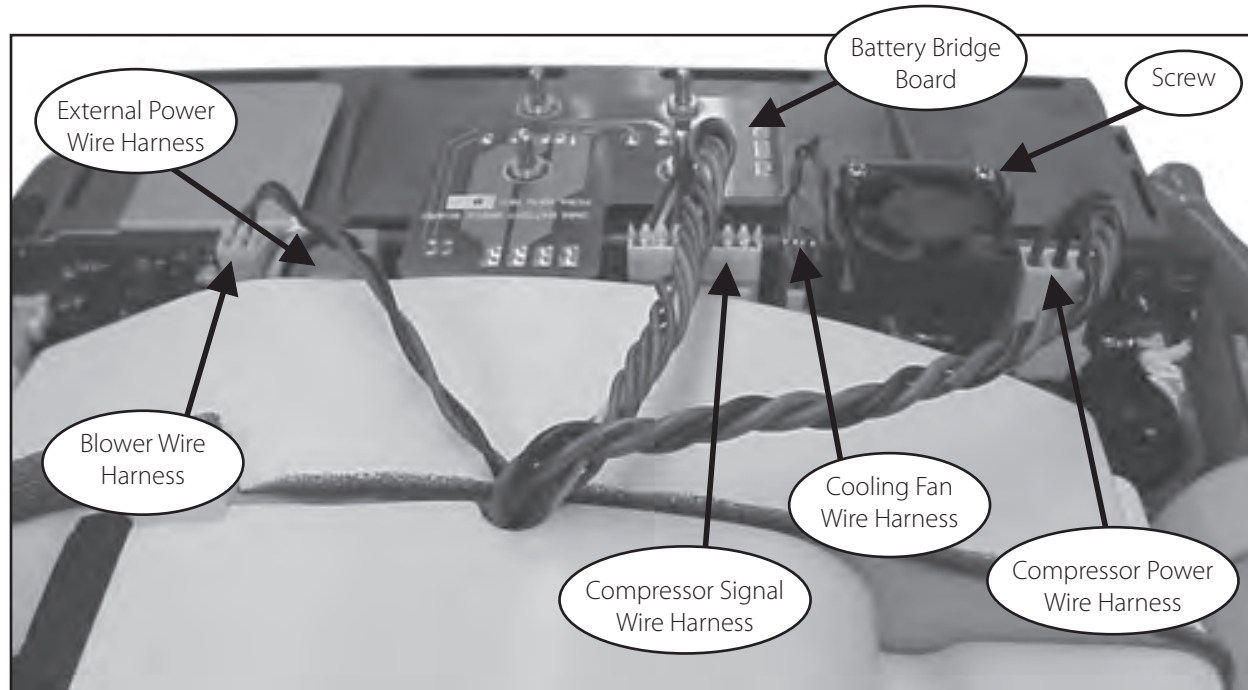

Figure 57: Power Manager PC Board Removal.
3. Disconnect the 5 wire harnesses as shown in Figure 49. Remove the Battery Bridge PCB as shown in Figure 57.
8. Install the fan with the 2 screws and lightly tighten as shown in Figure 57. Apply Loctite 425 Thread Locker on the tips of the screws before installing. Ensure that it is blowing down as indicated by the arrow on the side of the Fan.
9. Install the Battery Bridge PCB and 4 wire harnesses shown in Figure 57.